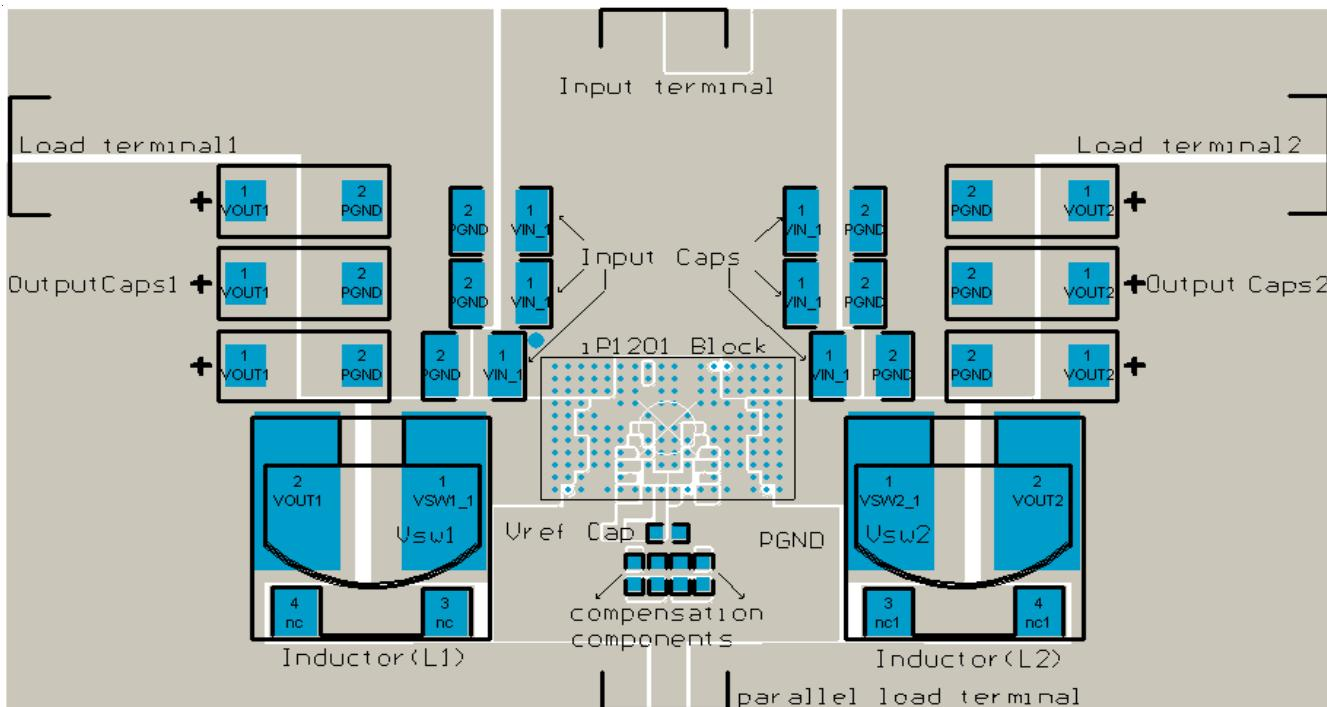

Fig. 33: iP1201 suggested layout
1. Follow the layout scheme presented in Fig. 33. Make sure that the output inductors L1 and L2 are placed as close to iP1201 as possible to prevent noise propagation that can be caused by switching of power at the switching node Vsw, to sensitive circuits.